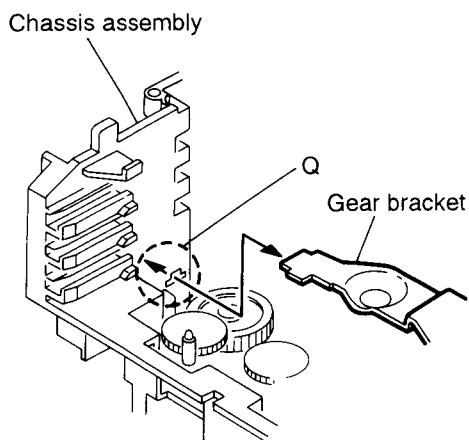

Fig. 2-26
3. From the notch (Q section) on the chassis assembly fixing the edge of gear bracket, remove and take out the gear bracket (See Fig. 2-26).